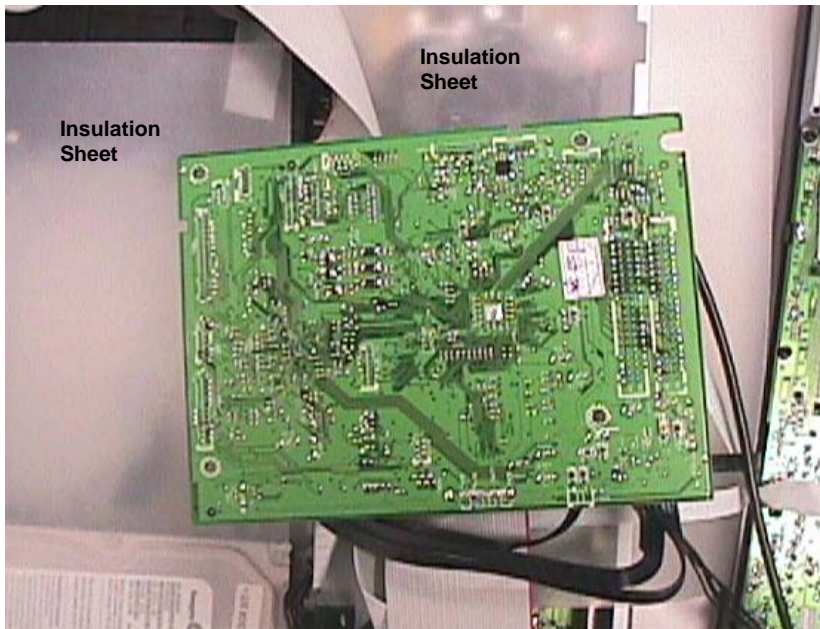

Figure 10 - Digital Board Service Position (the Digital Board Bracket Removed, and Front Panel Detached)
- 2) Service position for Digital Board is given in Figure 10. (Remove the Digital Board Bracket 187 and take out the cables beneath it to make it easier to flip over the digital board. Front Panel should also be removed. Flip over the digital board and put the insulation sheet under it for servicing)